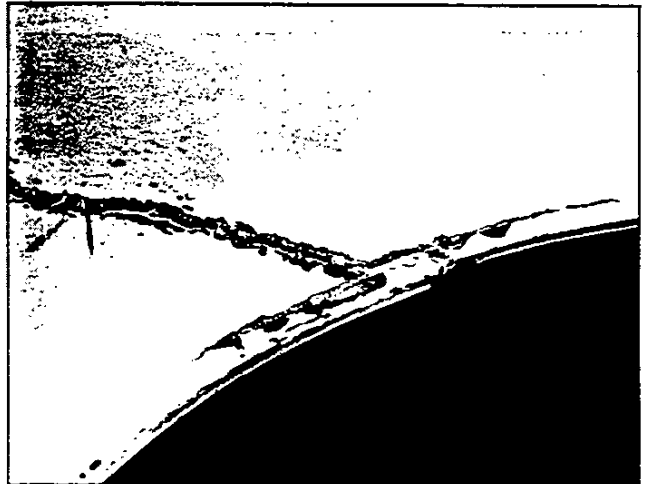

Fig. 63—Typical Cracked Panel
1. In the case of a cracked panel, such as shown in Figure 63, cut along the break line with a hacksaw blade and removed broken portion of the panel.